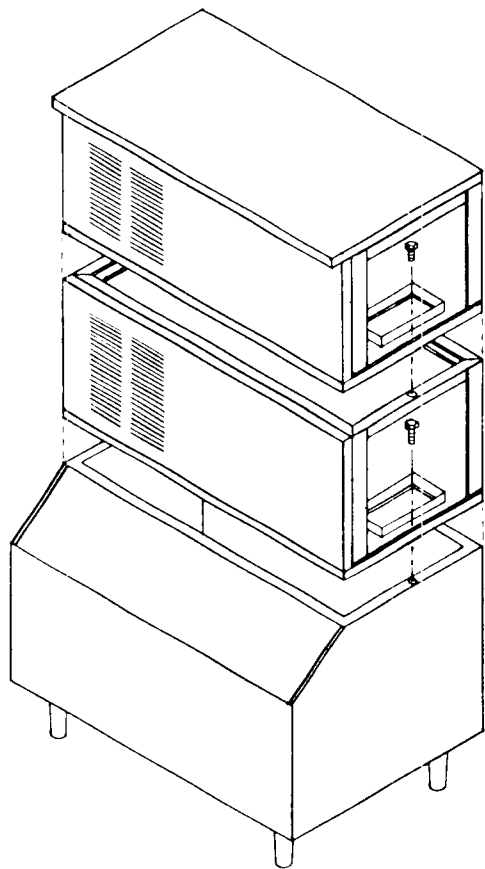

FIG. 1
2. After mounting bottom cuber to storage bin, place upper machine directly on frame of lower machine. Bolt together with same bolts and holes used in holding machine to crate skid. Fig. 1